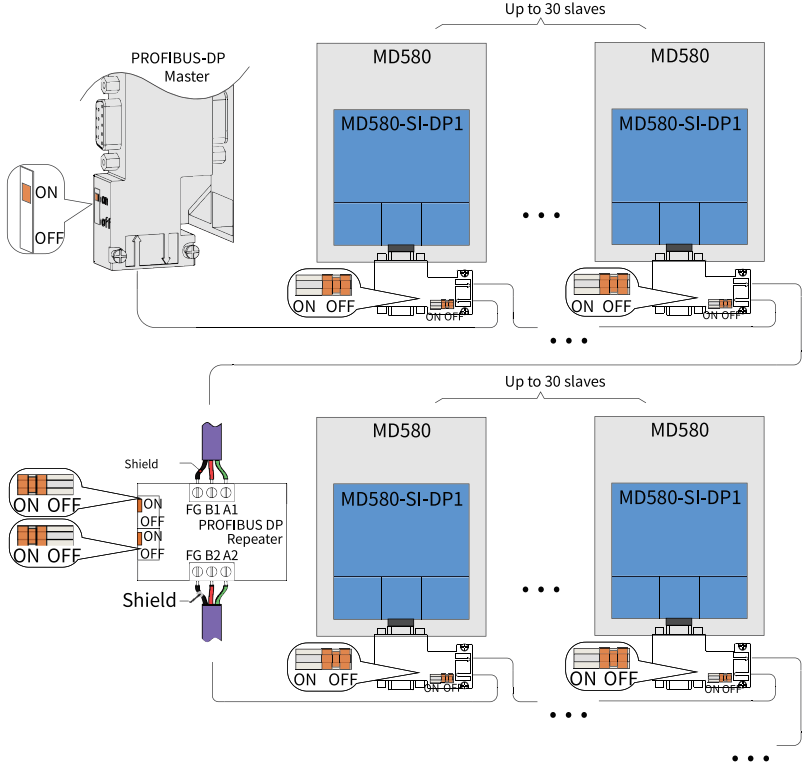

Figure 2-7 Multi-drive system connection with repeaters
- For multi-drive system connection with repeaters, connect termination resistors to the first and last AC drives, and connect the termination resistor of the repeater, as shown in *"Figure 2-7 Multi-drive system connection with repeaters" on page 22.*